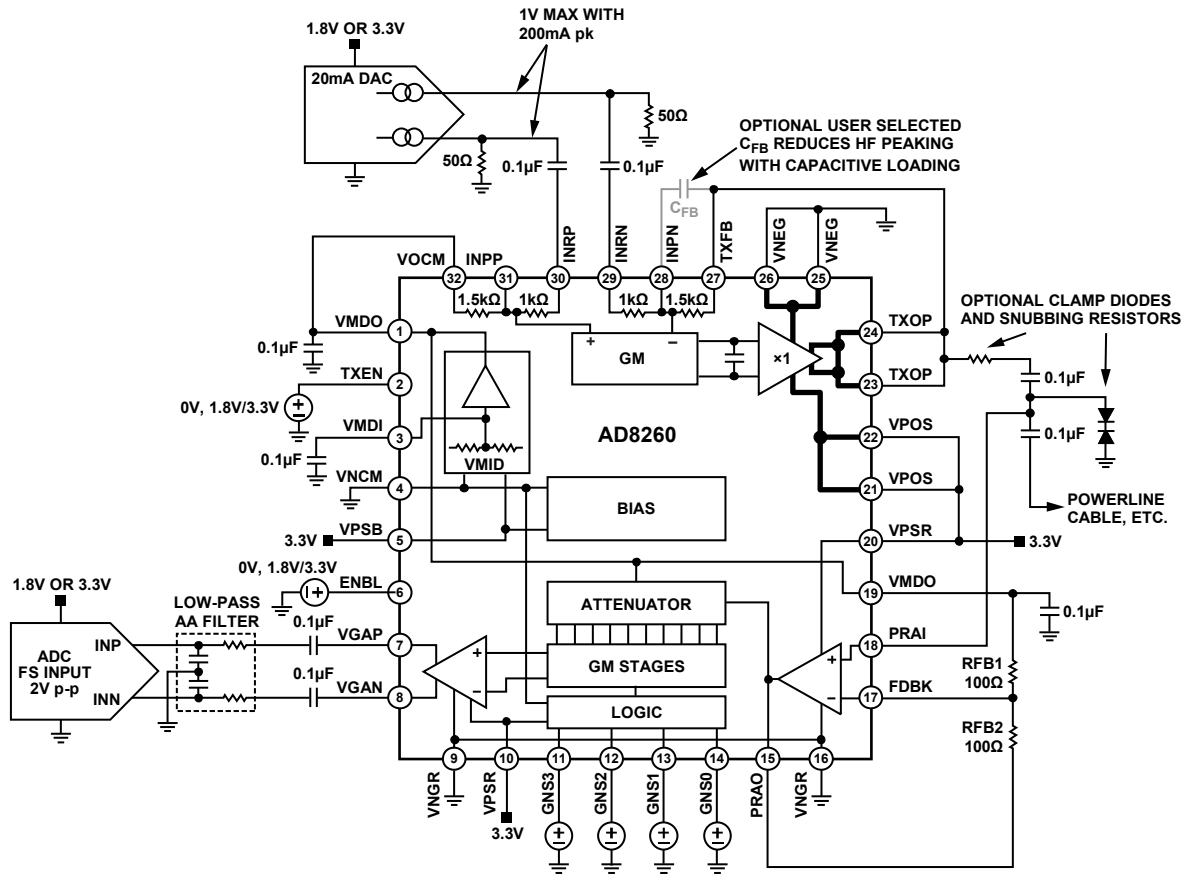

Figure 64. Block Diagram and Basic Application Connections
The AD8260 is a self-contained transceiver intended for analog communications using a power line as the media. Operating on supplies as low as 3.3 V, it includes a high current driver usable as a transmitter and a low noise digitally programmable variable gain amplifier (DGA), usable as a receiver (see Figure 64). An uncommitted current-feedback high frequency op amp acts as a preamplifier and interface to the DGA and is user configured for gains greater than 6 dB. Combined, the VGA and preamplifier are usable at high signal levels from dc to 100 MHz, with a small-signal -3 dB bandwidth of 230 MHz. To implement a high current-output VGA, the VGA output can be connected to the driver-amplifier differential input.
4-bit parallel interface. Figure 64 shows the circuit block diagram and basic application connections, and illustrates the envisioned external DAC, ADC, and power-line bus interface connections. The diagram shows the connections for single 3.3 V supply operation; if a dual supply is available, the VMID generator can be shut down and Pin VMDI, Pin VMDO, and Pin VOVM need to be grounded. Note that Pin VNCM functions as the negative supply for the bias and VMID cells, plus the logic interfaces, and should always be tied to ground.
For optimal dynamic range, it is important that the inputs and outputs to both the driver amplifier and the preamplifier and the DGA output amplifier be ac-coupled in a single-supply application. In Figure 64, the DAC and ADC are presumed to operate on a 1.8 V or 3.3 V supply with a corresponding limited output and input swing. The DAC outputs are currents that point down and generate a voltage in the $50\ \Omega$ resistors that are connected to ground. The maximum voltage with a peak DAC output current of 15 mA is 0.75 V; if a DAC with a 20 mA peak current is used, then the maximum voltage is 1 V per side for a differential input signal of 2 V p-p.
The high current driver amplifier can deliver very large output currents suitable for driving complex impedances, such as a power line, a 50 Ω line, or a coaxial cable. The input of the amplifier is fully differential and intended to be driven by a differential current-output DAC, as shown in Figure 64. The differential input signal is amplified by 1.5 \times and produces a 2.25 V p-p single-ended output signal from a 1.5 V p-p input signal. A DAC with 15 mA maximum output current into a 50 Ω load provides 1.5 V p-p of input voltage and results in 2.25 V p-p at the output. A DAC whose output is 20 mA produces an output swing of 3 V p-p (neglecting a small gain error when driving the parallel combination of the 50 Ω load-resistor and the internal 1 k Ω gain resistor of the AD8260).
During receive, when the high current driver-amplifier is disabled, its gain setting resistors provide a signal path from input to output. To prevent inadvertent DAC signals from being transmitted while receiving via the preamplifier and DGA, the DAC in Figure 64 must have no output signal.
The VMID buffer is a dc bias source that generates the voltage on Pin 1 and Pin 19, VMDO. Node VMDO cannot accommodate large dynamic currents and requires excellent ac decoupling to ground. A high quality 0.1μF capacitor located as close as possible to Pin 1 and Pin 19 (see Figure 64) is normally sufficient to decouple the high values of current from Node VMDO.
Referring to Figure 64, the signal path consists of a 30 dB programmable attenuator followed by a fixed gain amplifier of 18 dB for a total DGA gain range of -12 dB to $+18 \text{ dB}$. With the preamplifier configured for a gain of 6 dB, the composite gain range is -6 dB to $+24 \text{ dB}$ from single-ended preamplifier input to differential DGA output.
- Use the internal VMID buffer as shown in Figure 64.